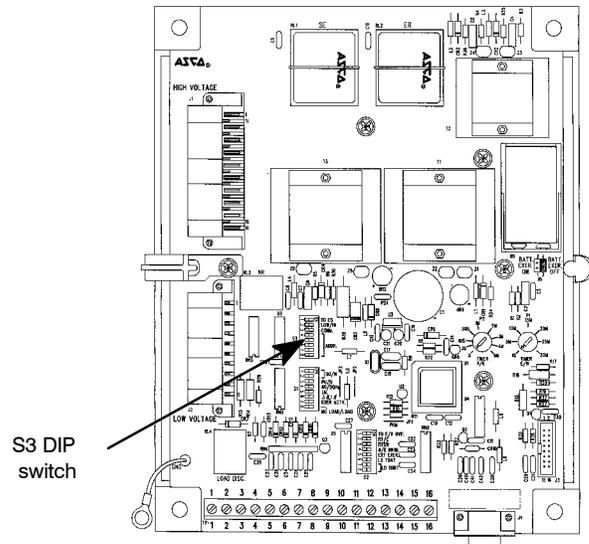

Figure 6. Location of S3 DIP switch in Group 1 Controller (Series 300 ATSS).
2. Locate DIP switch S3 (left center) and set a unique address for this ATS. Use a ball-point pen (or similar pointed tool) to slide the switch actuators left or right so that they match the illustration next to the setting (left=off, right=on). Recheck the setting. See Figures 6 & 7, and refer to Table C on the next page.